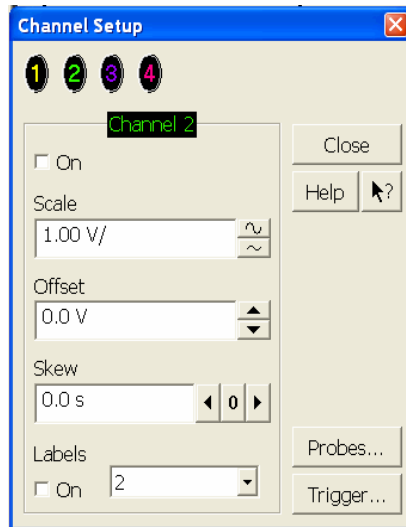

Figure 21 Channel Dialog Box
- In the Channel Setup dialog box, select the Probes... button, as shown in Figure 21.